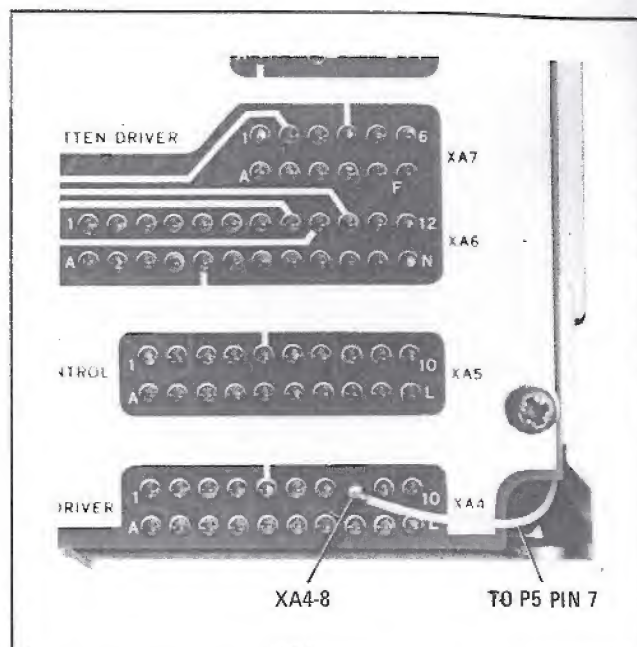

Figure A-2. Connection to A10XA4-8
4. Connect an insulated 4 inch wire between A10XA4 pin 8 (on interconnect board) and rear panel Preselector connector P5 pin 7. Refer to Figure A-2.